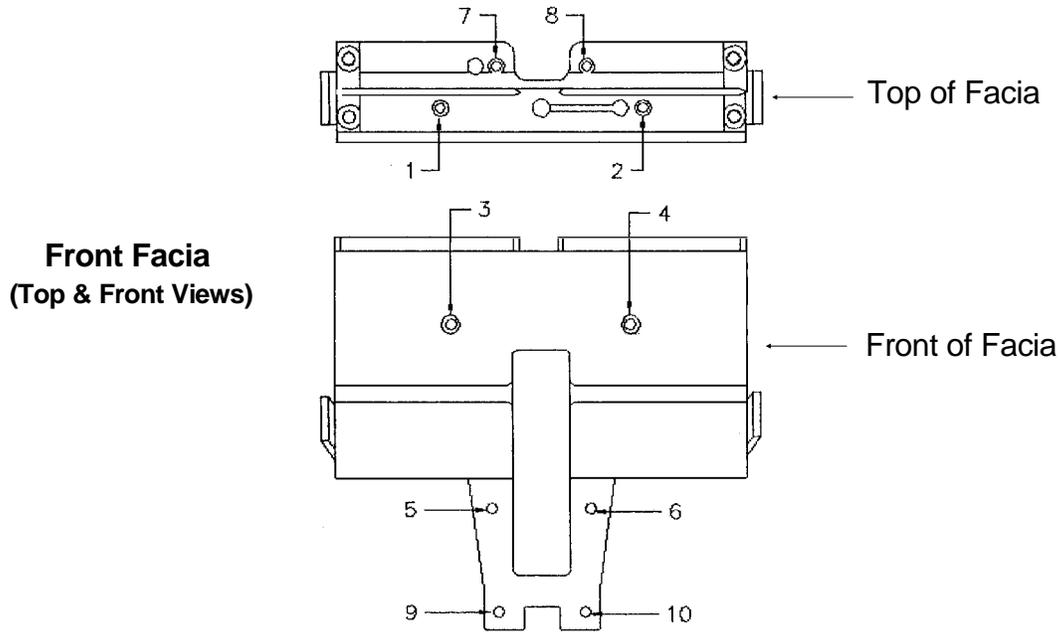

Fig. 5-7
2. Remove the four 3mm screws from the top of the Facia. (Refer to fig 5-7.)
3. Remove the six 4mm screws from the front of the Facia. (Refer to fig.5-7 .)